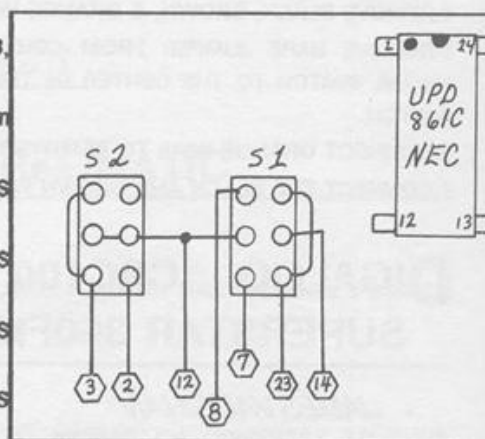

FIGURE 1. TRC-468
3. WIRE TWO DPDT CENTER OFF SWITCHES AS PER FIG.1.
GIVES 27.425-27.885. REFER TO FIGURES 1 & 2.